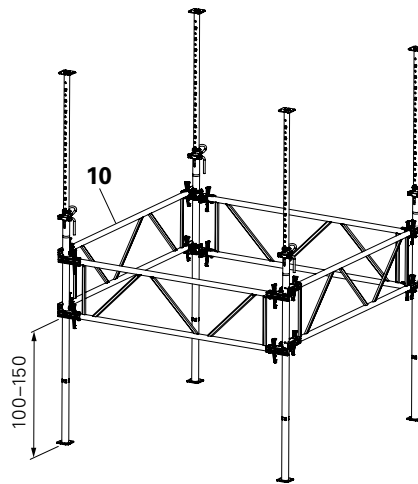

Fig. A1.06
2. Insert pre-assembled slab prop between the fastener and clamping jaws. (Fig. A1.06)
3. Close clamping jaw and push wedge downwards. Every frame has 4 fasteners each with one wedge (top and bottom, as well as right and left). (Fig. A1.06 + A1.06a)
5. Hammer in all wedges (rebound impact). (Fig. A1.06 + A1.06a)